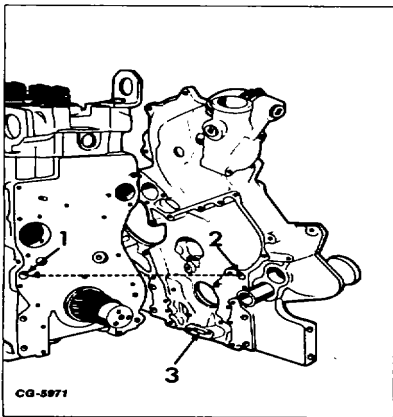

Figure 2. - Lube Oil Passage Locations in Front Cover & Crankcase
The pump (4, Fig. 1) is a "GEROTOR" type mounted on and driven directly by the crankshaft (7) at engine speed. Oil from the sump in the oil pan flows through a tube (8) and to the front cover opening (3, Fig. 2) where it enters the pump.
After passing through the pump, the oil re-enters the cover and is channeled through the pressure outlet (2, Fig. 2) of the cover into the forward end of the lower oil gallery (1, Fig. 2) of the crankcase.